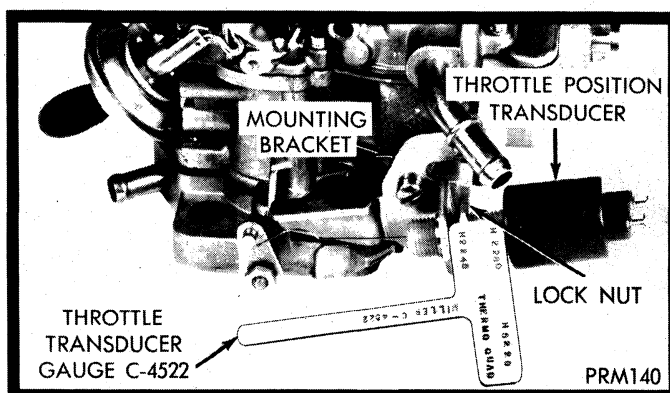

Fig. 25—Adjusting Throttle Position Transducer Typical
(1) Disconnect wiring from throttle position transducer.
(2) Loosen lock nut.
(3) Place special tool C-4522 between outer portion of transducer and transducer mounting bracket (Fig. 25).
(4) Adjust transducer by turning clockwise or counterclockwise until a clearance fit is obtained.
(5) Tighten lock nut securely.